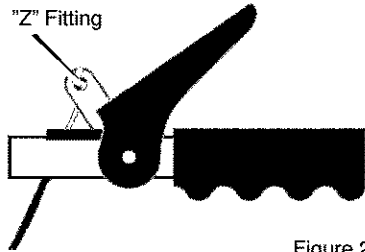

Figure 23
**To check for correct adjustment, unhook "Z" fitting at clutch lever (see Figure 23).**
5. Disconnect the **"Z" fitting** from the **drive lever** (see Figure 23).
11. Install the **"Z" hook** to the **traction drive lever** (see Figure 23).